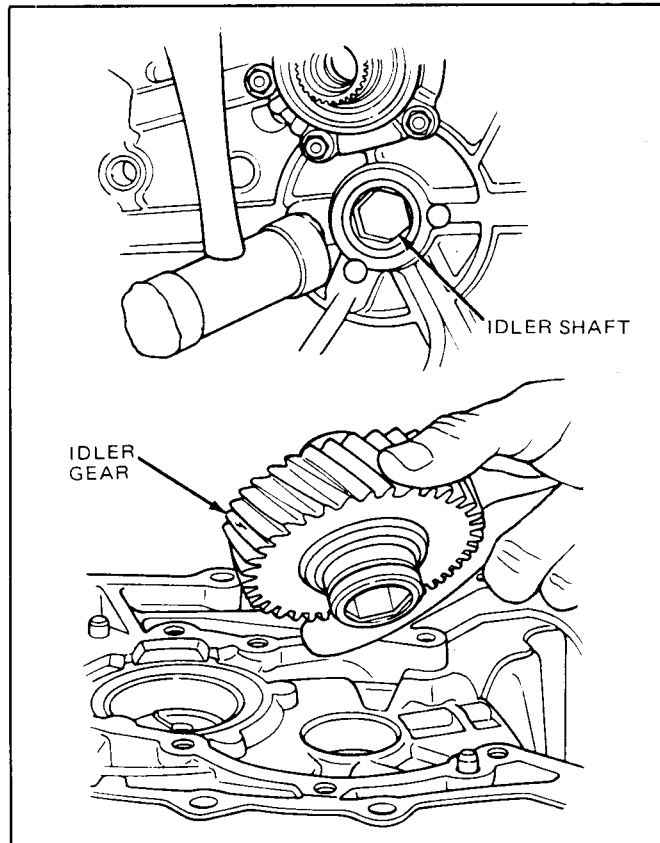

Figure 7A-34 Idler Shaft Removal
32. Remove the idler gear from the housing. Tap idler shaft with soft face hammer from the converter side of the housing for removal (Figure 7A-34).
33. Remove the bearing outer race from the bearing housing using J-33367 puller bridge with J-35280 bearing race puller (Figure 7A-35).